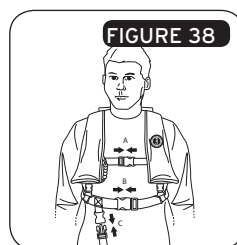

FIGURE 38
7. Buckle the chest buckle connecting the left- and right-hand lobes of the LP (Figure 38).
8. Buckle the waist belt (Figure 38).
9. Bring the crotch strap buckle to the front between the legs and securely buckle it to the chest strap (Figure 38).